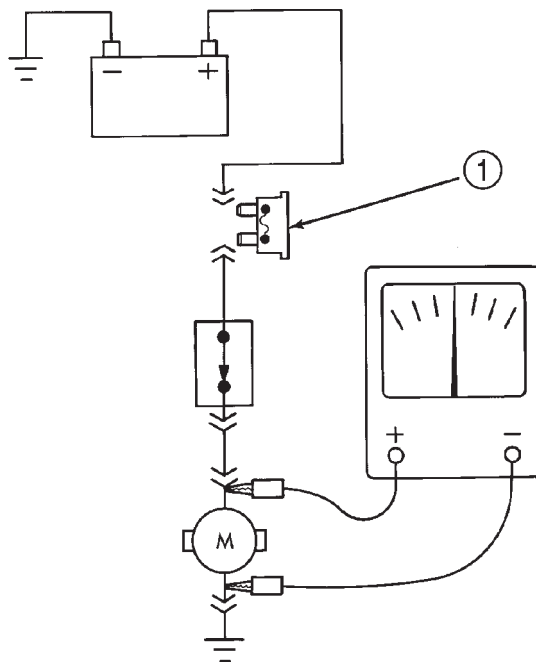

Fig. 5 Testing for Continuity
- (1) Remove the fuse for the circuit being checked or, disconnect the battery.
- (2) Connect one lead of the ohmmeter to one side of the circuit being tested (Fig. 5).
- (3) Connect the other lead to the other end of the circuit being tested. Low or no resistance means good continuity.